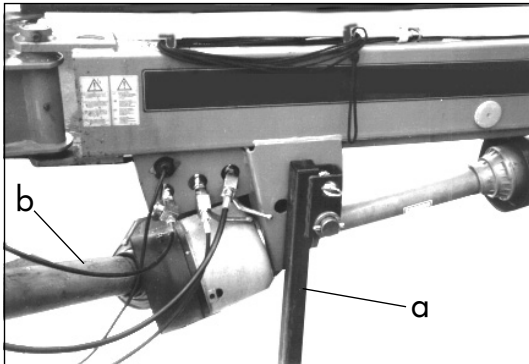

Fig. 3-18
- Swivel support foot (a) downwards until the locking device engages (fig. 3-18).
- Remove the cardan shaft (b) from the tractor and place in the storage bar (fig. 3-18).